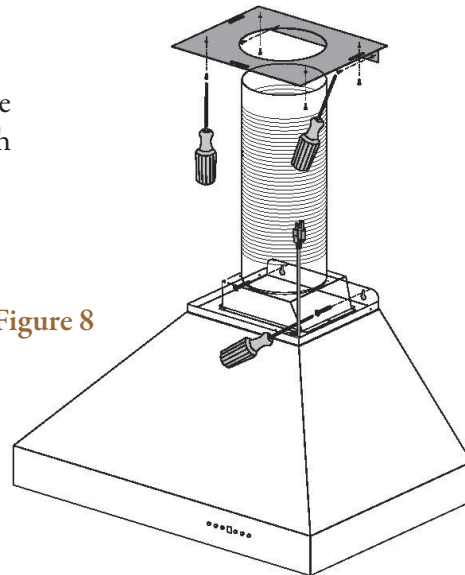

Figure 8
Install plastic drip cup by sliding into brackets located at the bottom of the motor. Install ♦baffle channel and baffle filters. (Figure 8)
- 9 Install the chimney on top of the hood. Secure the lower portion with the provided screw at the bottom. (Figure 8)